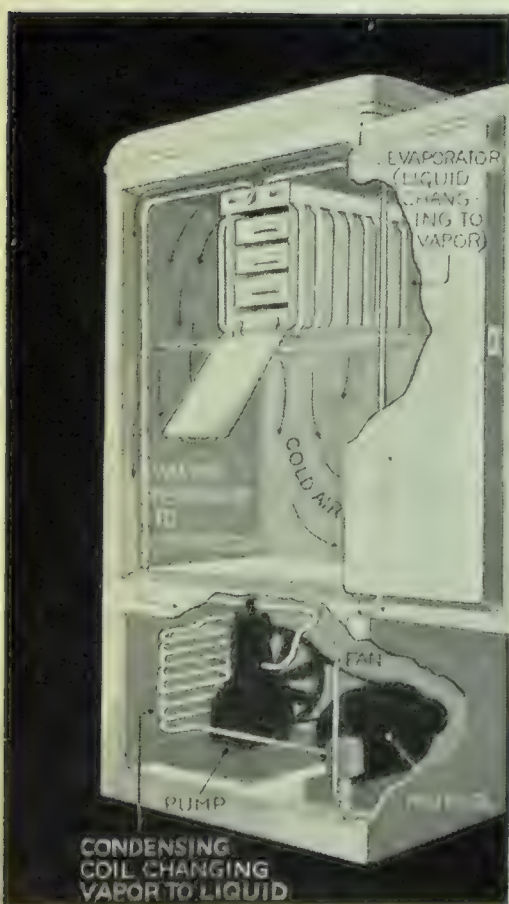

FIG. 200
**H**OW DO REFRIGERATING MACHINES WORK? To find out how artificial cooling machines work, we will examine an electric refrigerator. The pipes in the refrigerator (Figure 200) contain a gas, such as sulphur dioxide, which can be easily changed to a liquid if it is compressed. This compression is done by a pump, or compressor, which is operated by an electric motor.